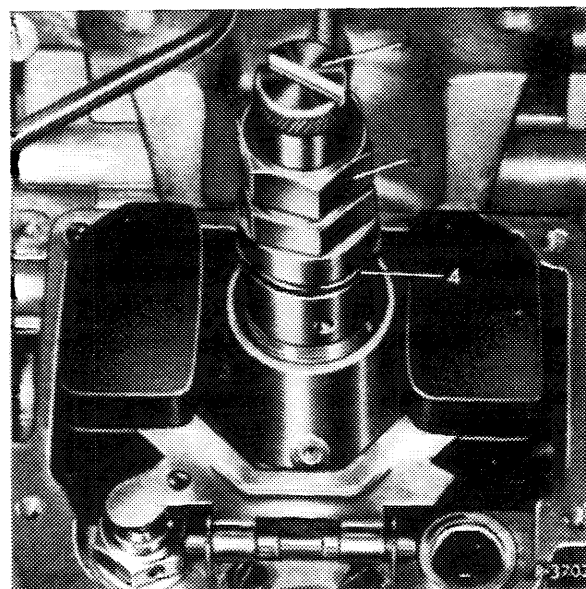

Fig. 07-4/5
7 Slide on retaining disc (4) and tighten cheese head screws (3) (see Fig. 07-4/2).